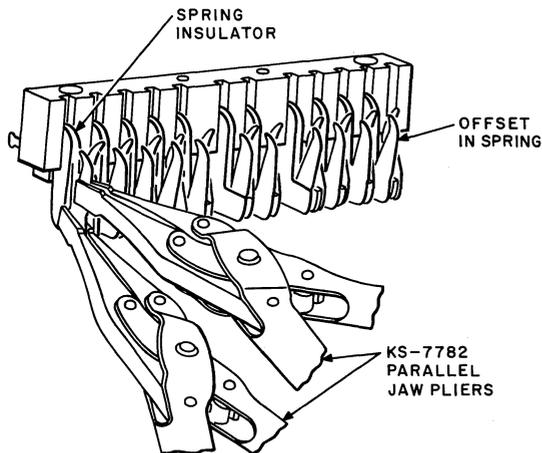

Fig. 19 — Method of Adjusting Springs to Make Contact With the Switch Removed From the Shelf
- (1) Adjust the clearance between the springs with the KS-7782 pliers applied to the springs just above the offset.
(2) Adjust the springs to make contact and to follow within the specified limits with two pairs of pliers applied to the spring as shown in Fig. 19.